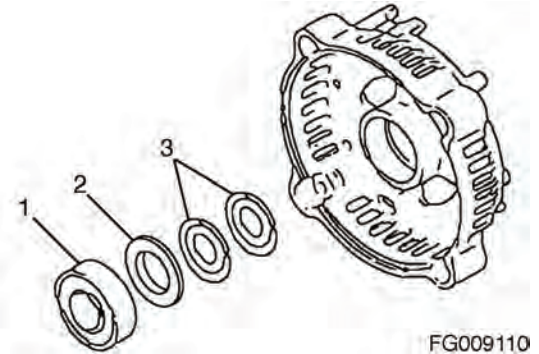

Figure 394
1. If removed, reinstall the two trust washers (3, Figure 394) and bearing cover (2, Figure 394) in the rear frame housing. Lubricate the outside diameter of a new bearing (1, Figure 394). Press the bearing into the rear frame housing.